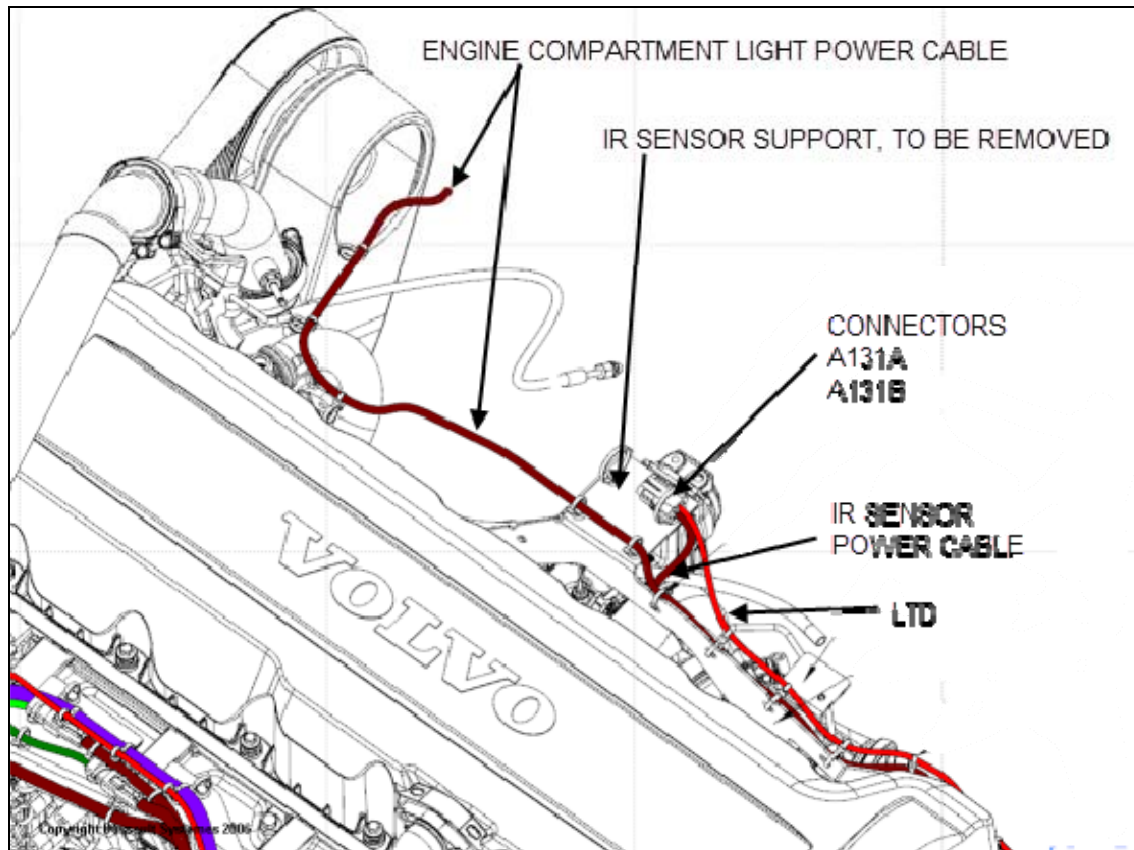

FIGURE 11: IDENTIFICATION OF COMPONENTS AND HARNESSSES
- 1) Locate the IR sensor and support above the turbo (FIGURE 11).